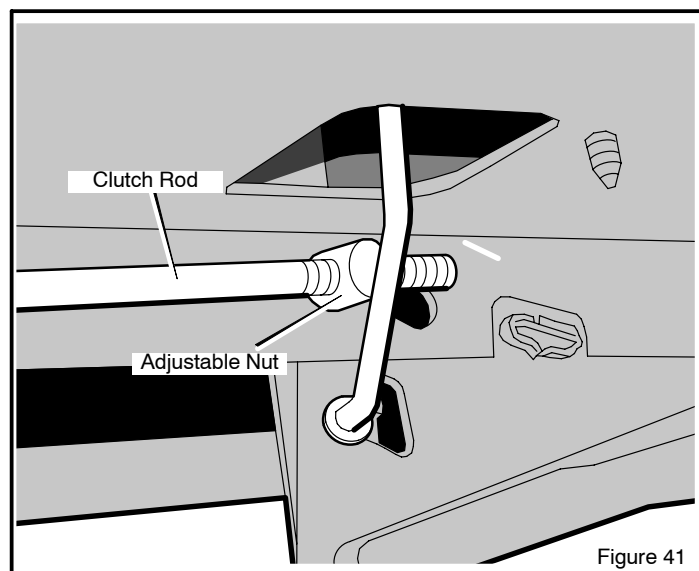

Figure 41
1. Remove the hair pin and washer from the **adjustable nut** on the **clutch rod** (Figure 41).